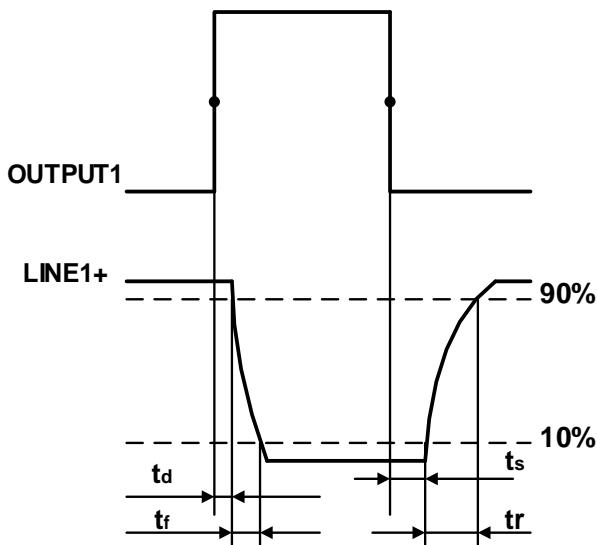

Figure 7-6 Parameter of opto-isolated output circuit
- Rising time delay =  $tr+td$ : <50μs (0°C~45°C) (parameter description is shown in Figure 7-6)
- Falling time delay =  $ts+tf$ : <50μs (0°C~45°C) (parameter description is shown in Figure 7-6)
- Rising time delay = tr+td: <20μs (0°C~45°C) (parameter description as shown in Figure 7-6)
- Falling time delay = ts+tf: <20μs (0°C~45°C) (parameter description as shown in Figure 7-6)